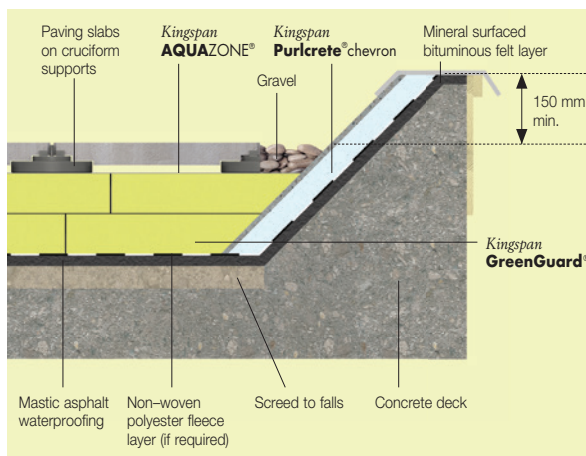

Figure 6 – Eave / Kerb Detail
- For best thermal performance, roof-lights and ventilator kerbs should be insulated with the same thickness of **Kingspan Purlcrete**[®]chevron, with a separate backing layer of **Kingspan GreenGuard**[®], as the general roof area (see Figure 6).
The use of *Kingspan AQUAZONE*® over the insulation (see Figures 6–11), can dramatically minimise heat loss by reducing the amount of rainwater that flows between and beneath the insulation boards.